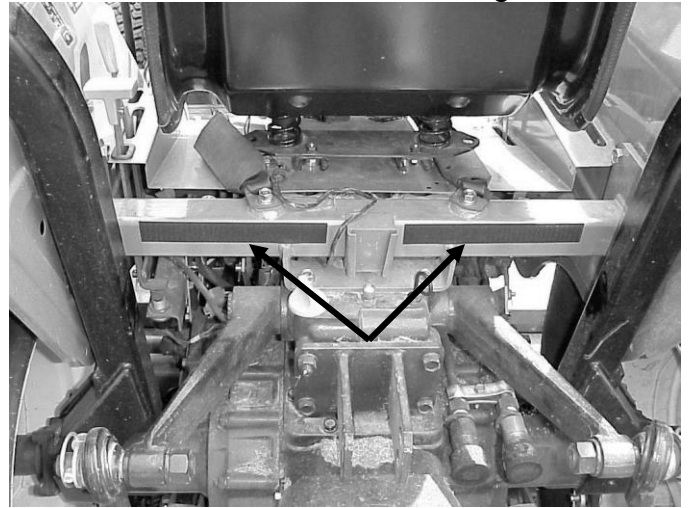

Figure 11A
- C. Secure the adhesive hook and loop fastener to the rear as shown in Figure 11A.